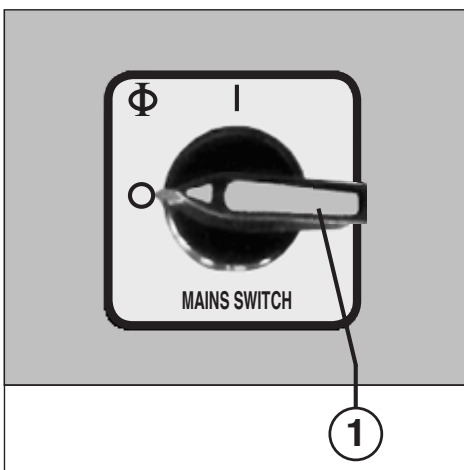

Fig. 1
1. Move the main switch (1) (fig. 1) to position „1“.
OPERATING FUNCTIONS (Figs. 1, 2 and 4):
- 1 = Mains switch (Emergency-stop) (fig. 1)**